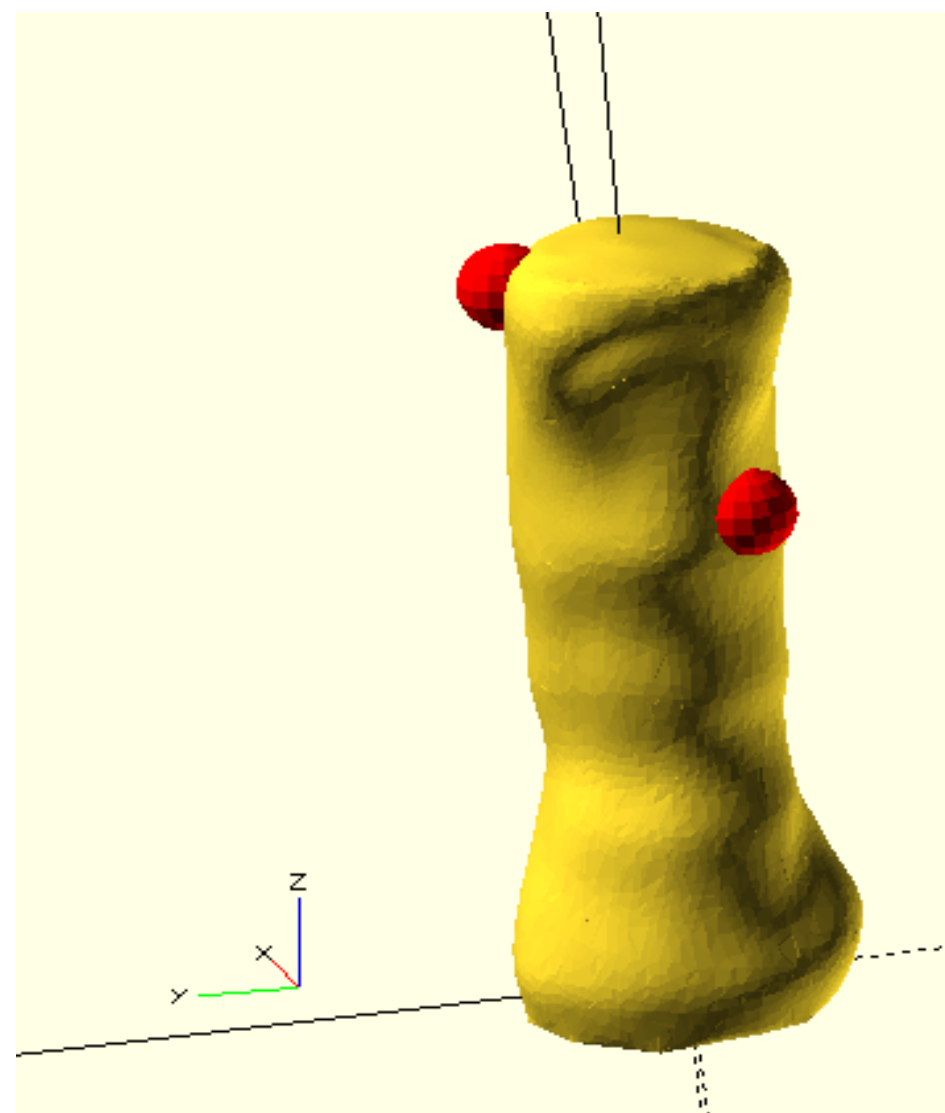

Figure 6. Rendering of the OpenSCAD script written by GripFab.
3. Based on these measurements, GripFab will write an OpenSCAD script that will render a 3D model of the augmented grip with the appropriate holes (Figure 6).